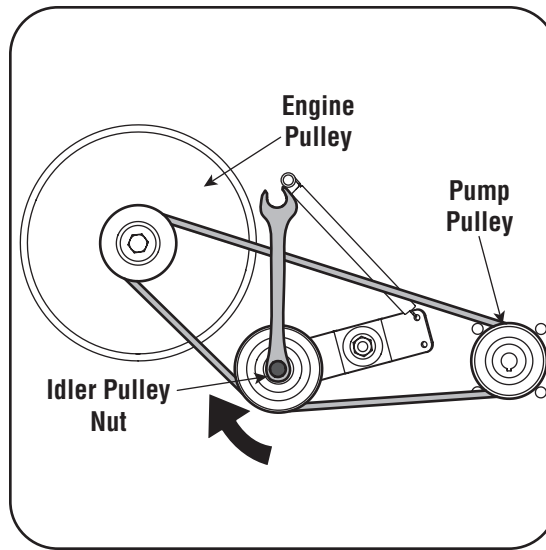

Figure 5-2
6. While your partner continues to hold the unit up, grasp the idler pulley nut with a 9/16 hex wrench or socket and pivot the idler bracket as shown in Figure 5-2. This will enable the belt to be easily removed from the idler pulley.
8. Route the new belt around the three pulleys as shown in Figure 5-2.